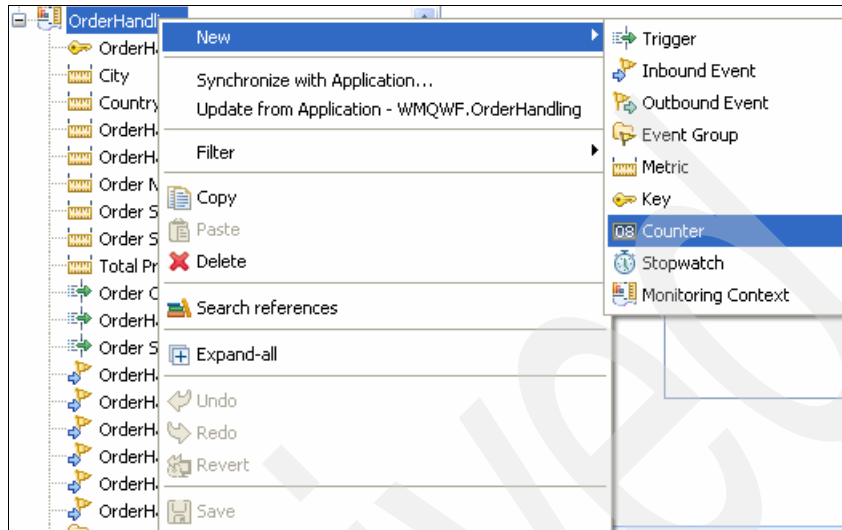

Figure 8-74 Adding a counter
20. Right-click **OrderHandling** and select **New** → **Counter** (Figure 8-74) to add a counter.